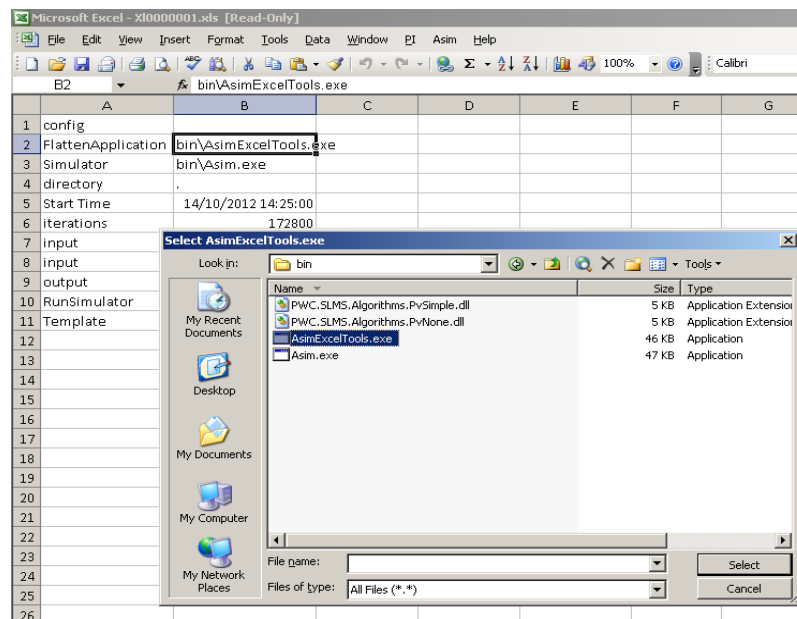

Figure 3: FlattenApplication popup
2. A popup similar to Figure 3 will appear. Locate your Asim installation directory and open the bin folder. Select AsimExcelTools.exe.